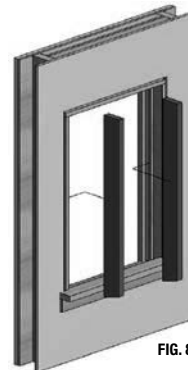

FIG. 8
- D) Remove existing balance system (cut cords if necessary, detach pulleys). (Fig. 8) **A casement window would not have an existing balance system.**